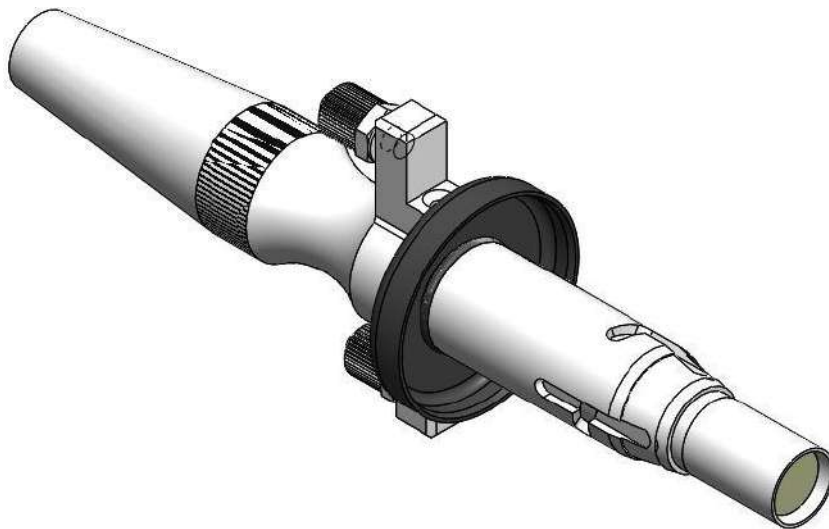

Figure 1.7
- ② Cover the dust-proof cover which is in the white accessory box, onto the fiber laser tip, as shown in Figure 1.7: